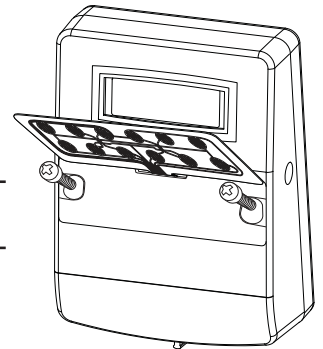

Figure 4
The 8130 Entry Device comes with the mylar portion of the keypad unattached. (Figure 4)
3. Install the two M4-0.7 Phillips screws through the front of the housing to mount the Entry Device to the door. (Figure 4)